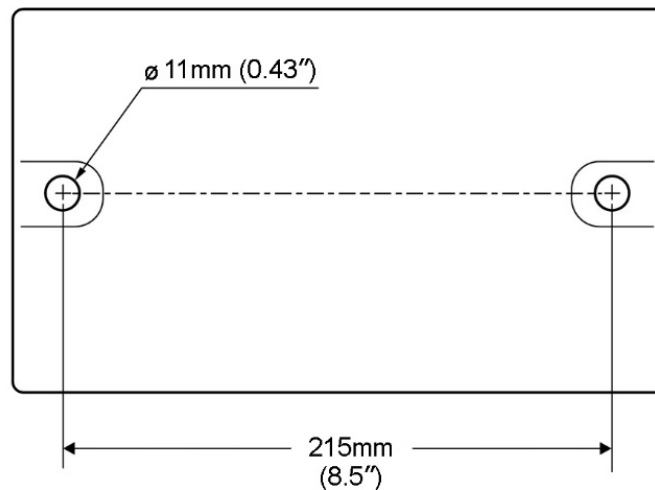

Figure 4-1 Mounting dimensions, all models
1. Align mounting holes on grinder with predrilled holes in bench or grinder stand. Figure 4-1 shows hole centers for mounting.